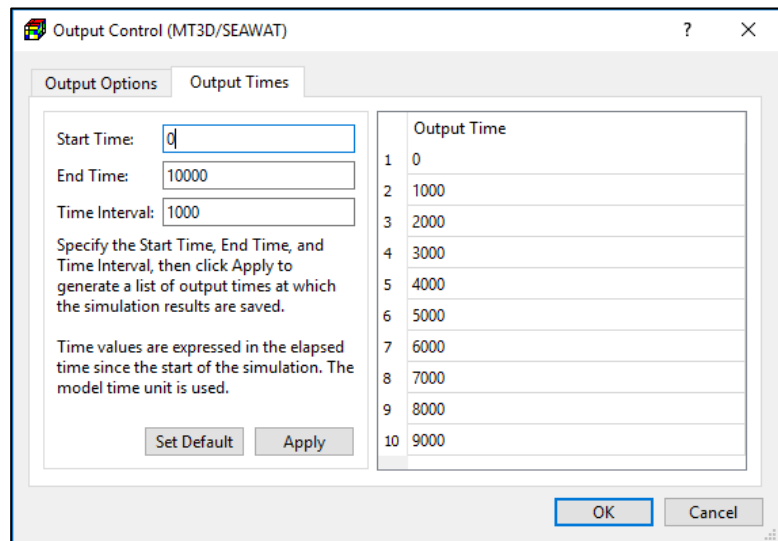

Figure 118. The Output Times tab of the Output Control (MT3D/SEAWAT) dialog box
2. Output Times Tab (Figure 118)